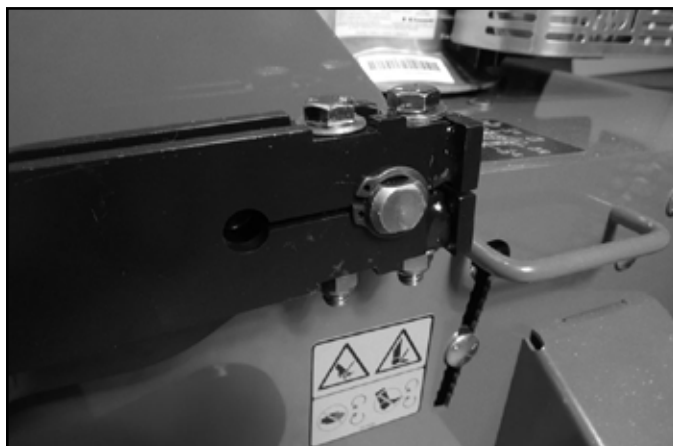

Fig. 082
13. Install the two bolts on the right hand lift arm (Fig. 082).